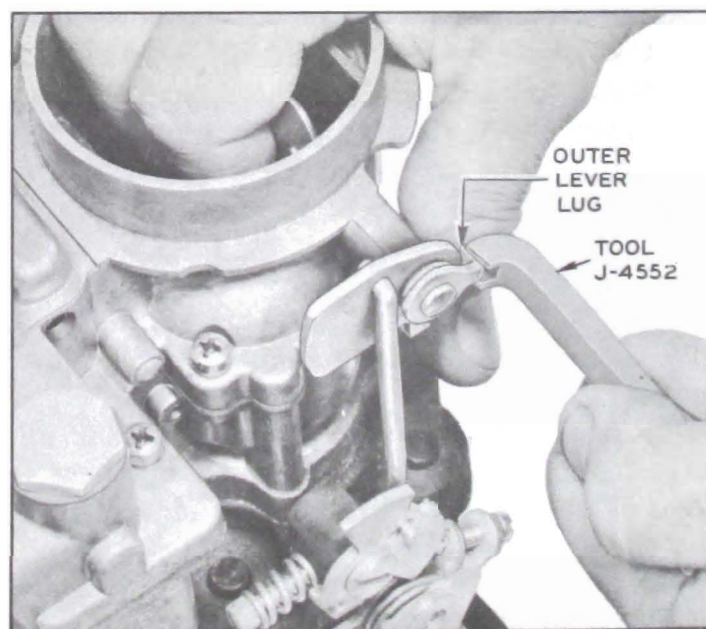

Figure 3-27—Adjusting Fast Idle Cam Clearance
2. If clearance is other than .020", bend lug on outer choke shaft lever as required to correct using Tool J-4552 or needle-nose pliers. See figure 3-27.